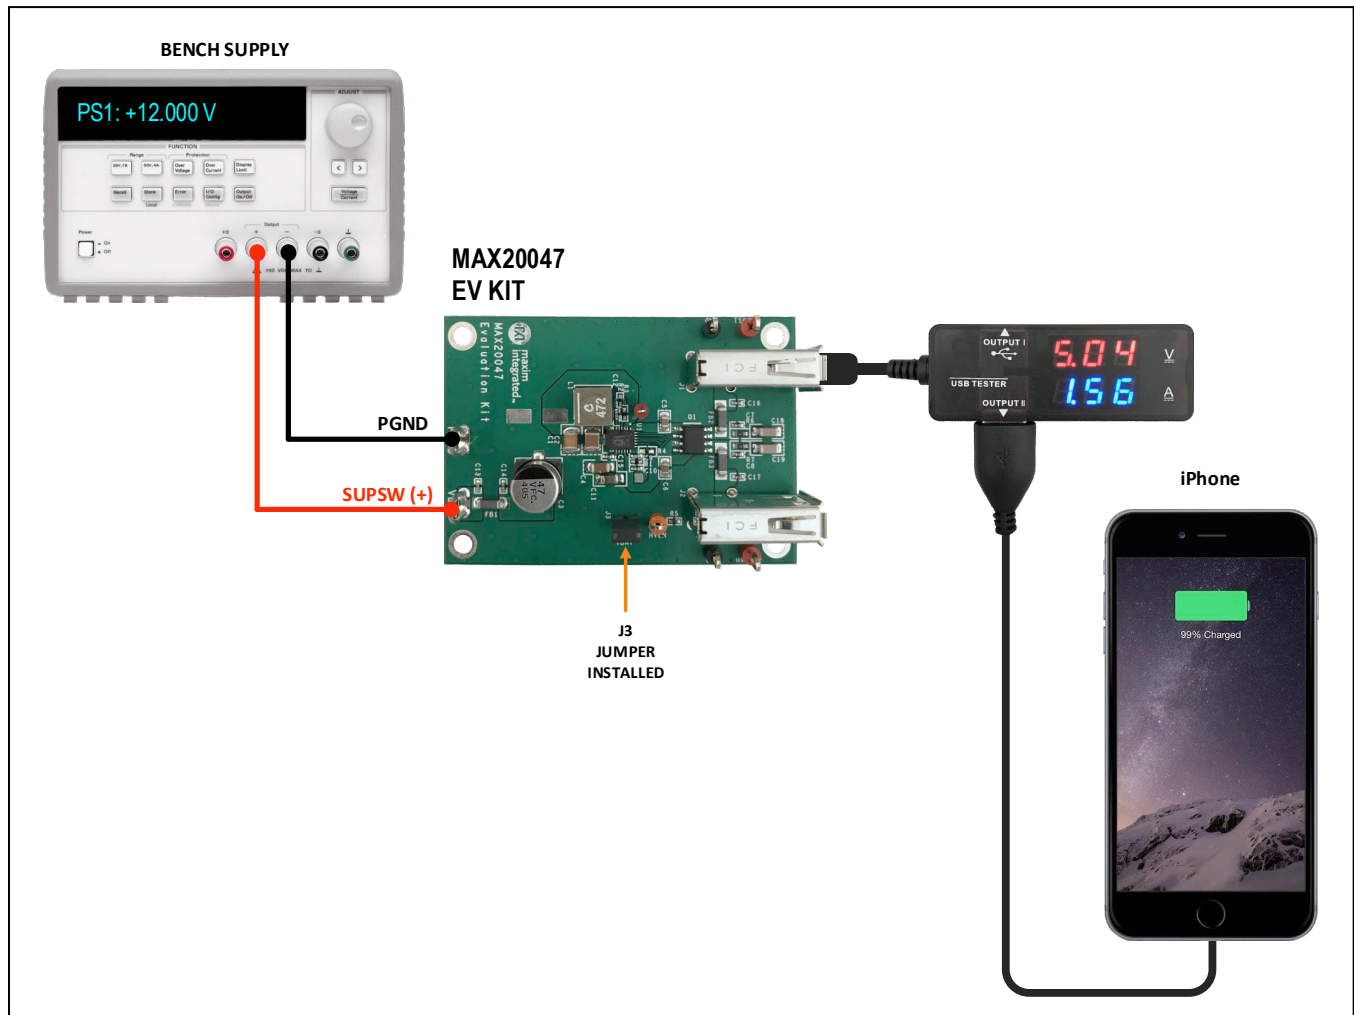

Figure 3. Test Setup for Verifying DCP Charger Detection with an iPhone
Figure 3 shows the test setup to evaluate the IC’s VBUS port voltages.
- 1) Connect the equipment (see Figure 3), set PS1 to 12.000V, and enable the power supply output.